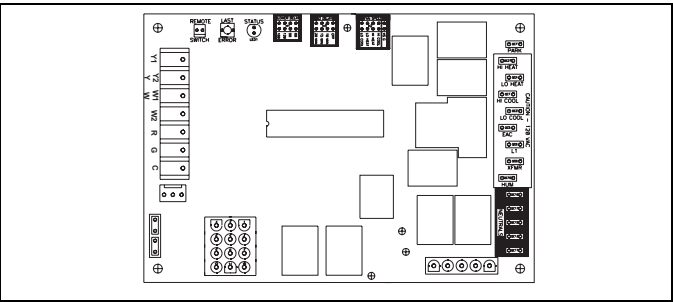

FIGURE 29: Furnace Control Board
Manifold gas pressure may be measured by connecting the "U" tube manometer to the gas valve with a piece of tubing and on an adapter. Follow the appropriate section in the instructions below. Refer to Figure 29 for a drawing of the locations of the pressure ports on the gas valve.
4. Remove high adjustment seal screw to expose the 3/32". See Figure 29.
4. Remove low adjustment seal screw. See Figure 29.